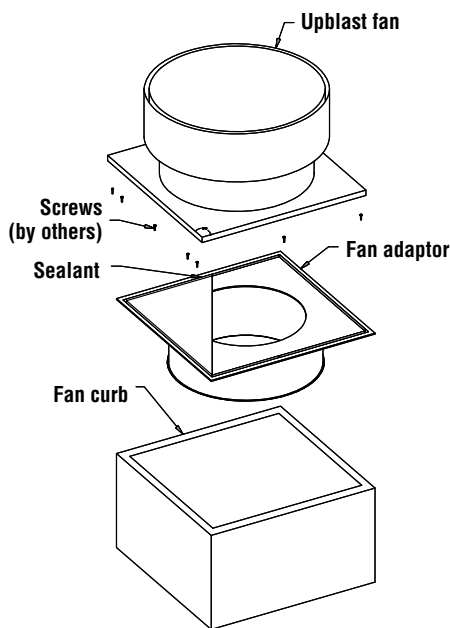

Figure 77 - Fan adaptor
2. When connected to an upblast fan (See **Figure 77**), the plate mounts on top of the fan curb which supports the fan housing.
5. Secure the plate to the curb a minimum of three (3) places per side with minimum #8 x 1-1/4" wood screws. You will have to drill holes in the plate.